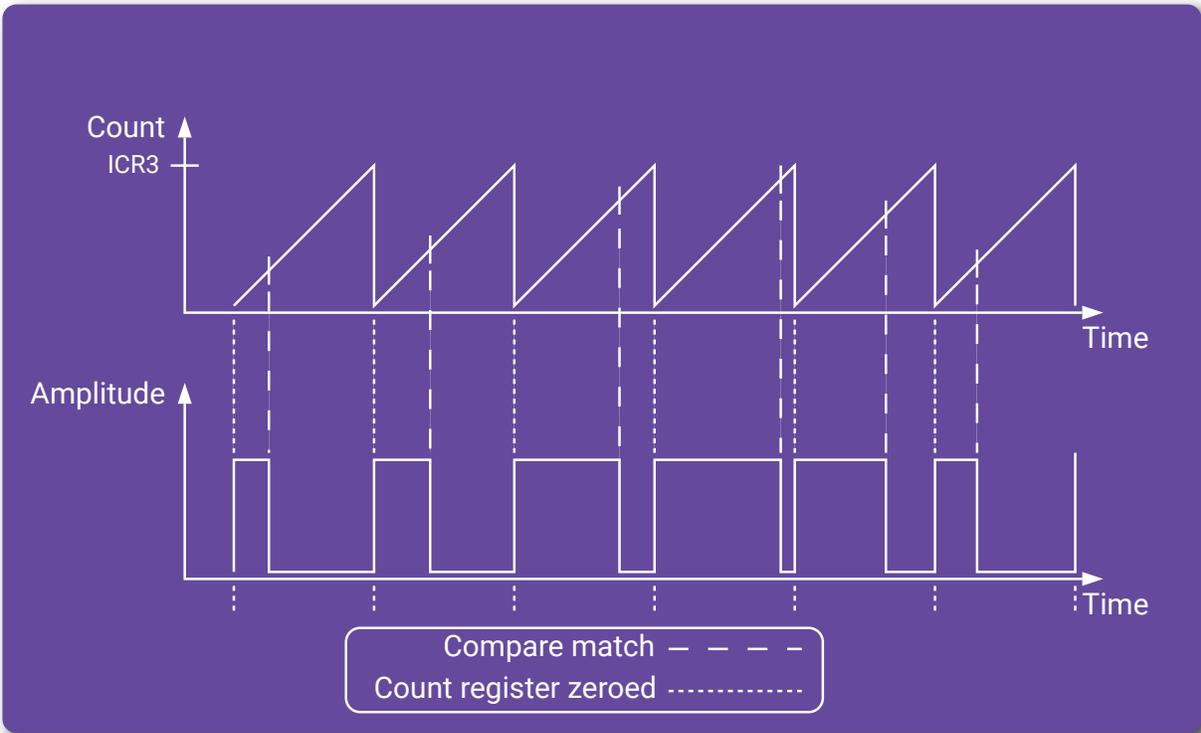

Figure 3.2: Pulse width modulation with an AVR timer/counter.
There are several varieties of a PWM signal that can be generated with an AVR timer/counter. Here is a description on how to initialize timer/counter 3 to generate “fast PWM” with ICR3 as top. For that purpose an output compare register, OCR3A or OCR3B, is used together with the counter value register. The desired behaviour is as follows. When the counter value register is zero, the selected OCR3 pin is set to high. As the timer increments the value, it is constantly compared with the value of the output compare register. When they match, the OCR3 pin is cleared (set to low). When the counter value is the same as the value in register ICR3 the timer/counter overflows and the output pin is set to high. After this the procedure starts again. See Figure 3.2 and 3.3.
- Select Fast PWM with ICR3 as top by setting the Waveform Generation Mode Bits `WGM30`, `WGM31`, `WGM32` and `WGM33` accordingly. See Table 17-11 on page 188-189 in the data sheet. Having ICR3 as top means that at this value the timer will restart, that is, clearing the counter register and start from zero again. See Figure 3.2. The Waveform Generation Mode Bits can be found in control register A and B.